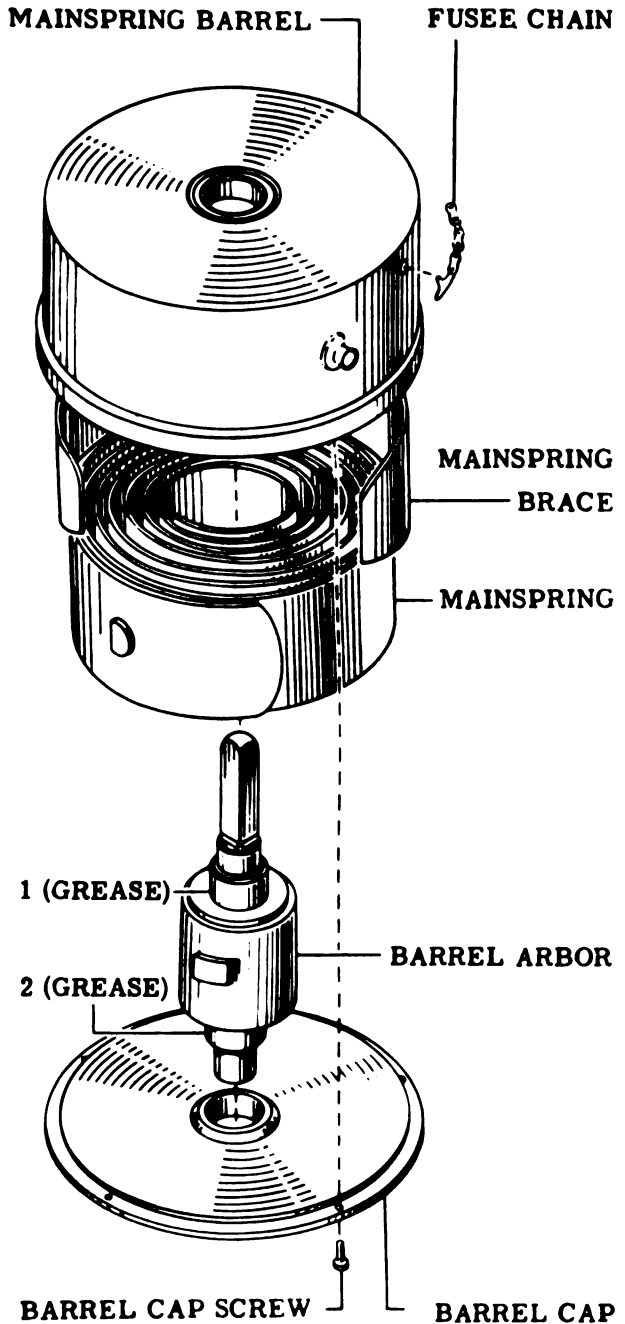

Figure 75
35. Grease and install mainspring brace in mainspring barrel, making sure that the angle of the ends is correct to prevent slipping. See Fig. 75 for proper relative positions.
37. Place a small amount of grease on the two bearing surfaces of the barrel arbor. See arrows Nos. 1 and 2 in Fig. 75.
38. Insert barrel arbor. Make sure the mainspring is hooked on the arbor. Check position with Fig. 75.
39. Place in barrel assembly block, Tool No. 55. Install barrel cap in the position shown in Fig. 75. The five barrel cap screws must be tightly screwed in place.
53. Hook fusee chain on barrel and wind barrel about one turn. Method of fastening is shown in Fig. 75.